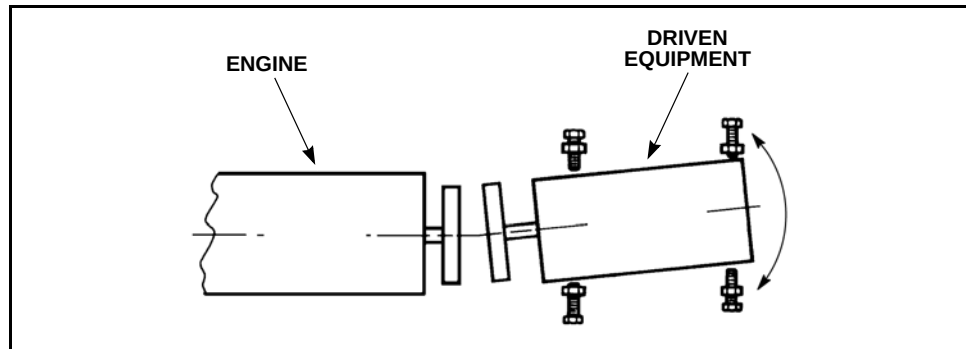

Figure 9-14 Move Opposite End
4. Loosen both bolts on the opposite end and move as calculated. Re-torque all mounting bolts (see Figure 9-14).